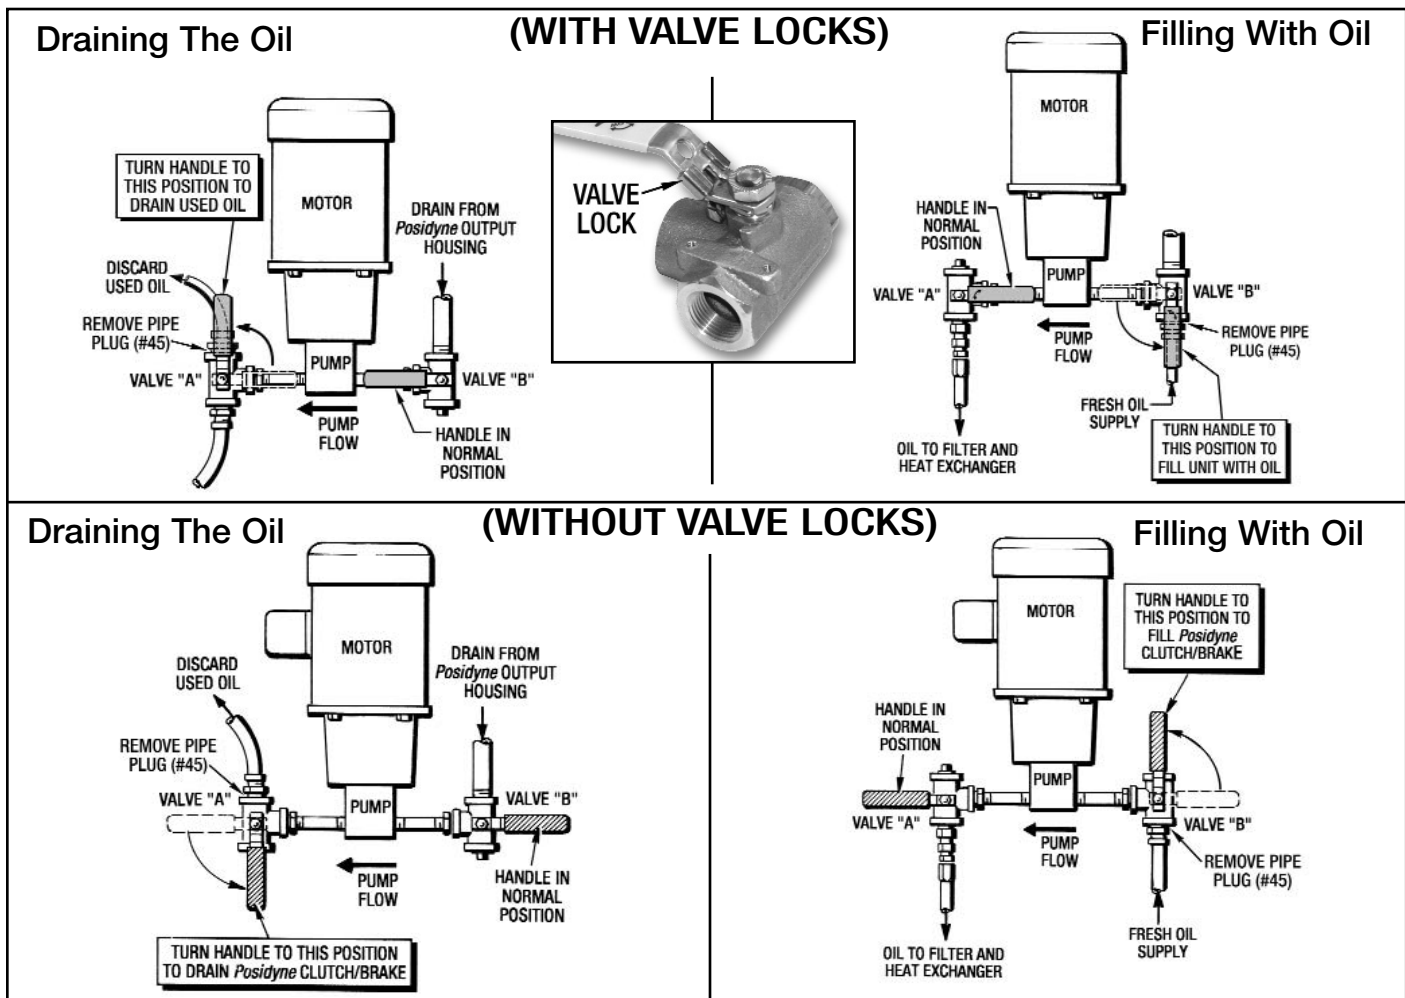

Figure 7 - Valve Positions for Draining and Filling the Oil
#### 2. Draining the Oil (See Figure 7)
b. Turn the handle on Valve "A" to Drain Position as shown in Figure 7. (Valve "B" should be in Normal Position.) Start the Cooling Pump and drain out all of the oil into a suitable container.
#### 3. Filling with Oil (See Figure 7)
b. Turn handle on Valve "B" to Fill Position as shown in Figure 7. Make sure that Valve "A" is in Normal Position.